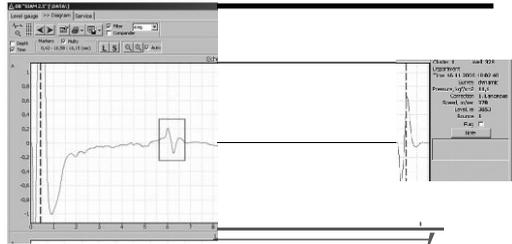

Fig.3. Reflected signal is inverted after tubing diameter changing from greater to smaller.
2) Reflection is in antiphase with the acoustic pulse and fluid level reflection. Fig.3. This type of reflection can happen as a result of annular space square area increasing. As a rule it is a result of tubing diameter changing from bigger to smaller.
It needs to plot data from table#1 and table#2 on the graph (Fig3) to estimate compliance of data from tables with the measured data.